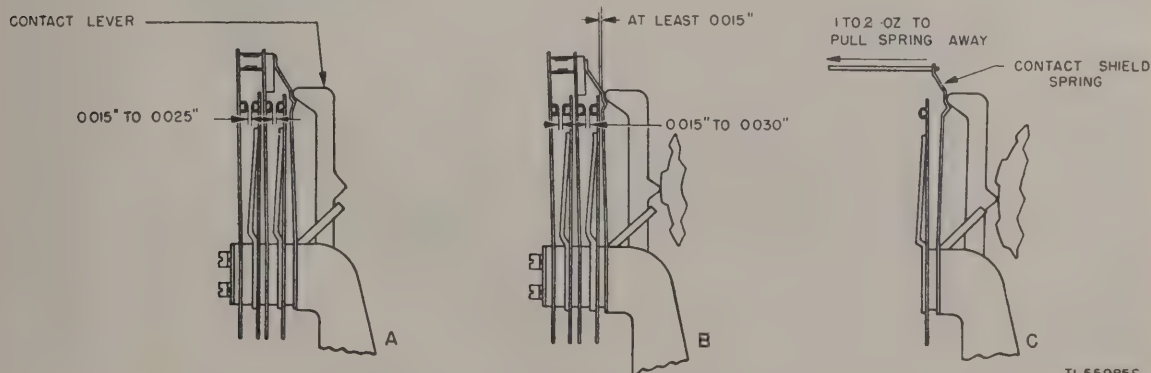

Figure 23. Distortion Test Set TS-383/GG, transmitting contact requirements.
a. CODE SELECTING SWITCH AT R. (1) Requirement. There should be a 0.015- to 0.025-inch gap between each pair of contact points of the numbers 1, 3, and 5 contact assemblies. (See A, fig. 23.)
(2) Adjustment. Bend the short contact springs and their stiffeners to the required gap.
b. CODE SELECTING SWITCH AT Y. (1) Requirement. There should be a 0.015- to 0.025-inch gap between each pair of contact points of the numbers 2 and 4 contact assemblies. (See A, fig. 23.)
(1) Requirement. There should be a 0.015- to 0.030-inch gap between each pair of contact points. (See B, fig. 23.)
(2) Requirement. Hold the number 1 contact lever against its cam and hook an 8-ounce scale on the top of the contact shield spring. (See C, fig. 23.) It should require 1 to 2 ounces to pull the spring away from the contact lever. Check each contact shield spring in the same way with each contact lever on a low part of its cam.
(3) Adjustment. Bend the contact shield springs.
Note. There should be at least 0.015 inch of clearance between the contact shield spring and the inside short contact spring. (See B, fig. 23.) If the position of the contact shield springs is changed in any manner, recheck the contact gaps.